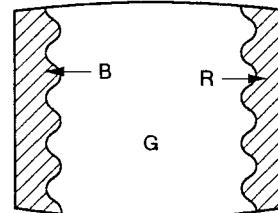

Fig. 3-2
- Move the deflection yoke backward, and adjust with the purity control so that green is in the center and blue and red are at the sides, evenly. (Fig. 3-2)